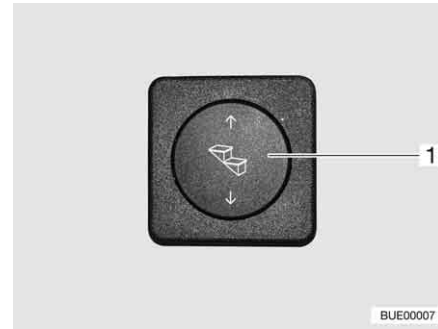

Fig. 6 Operating button for entrance step
- Press the rocker button (Fig. 6,1) down and hold it pressed (at least 3 seconds) until the entrance step has extended completely.
- Press the rocker button (Fig. 6,1) up until the entrance step has retracted completely.